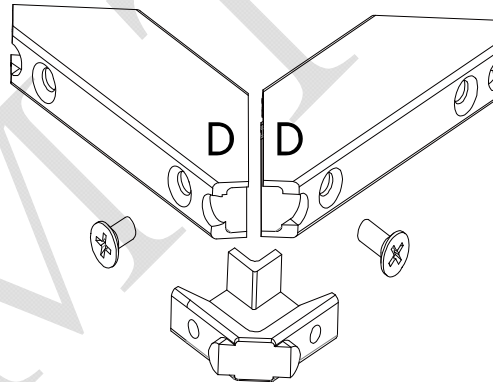

Fig. 9 Installation Diagram of Corner D-D
- 7) The corner D-D do not have FPC wiring harness, just install the frame as shown in Fig. 9.